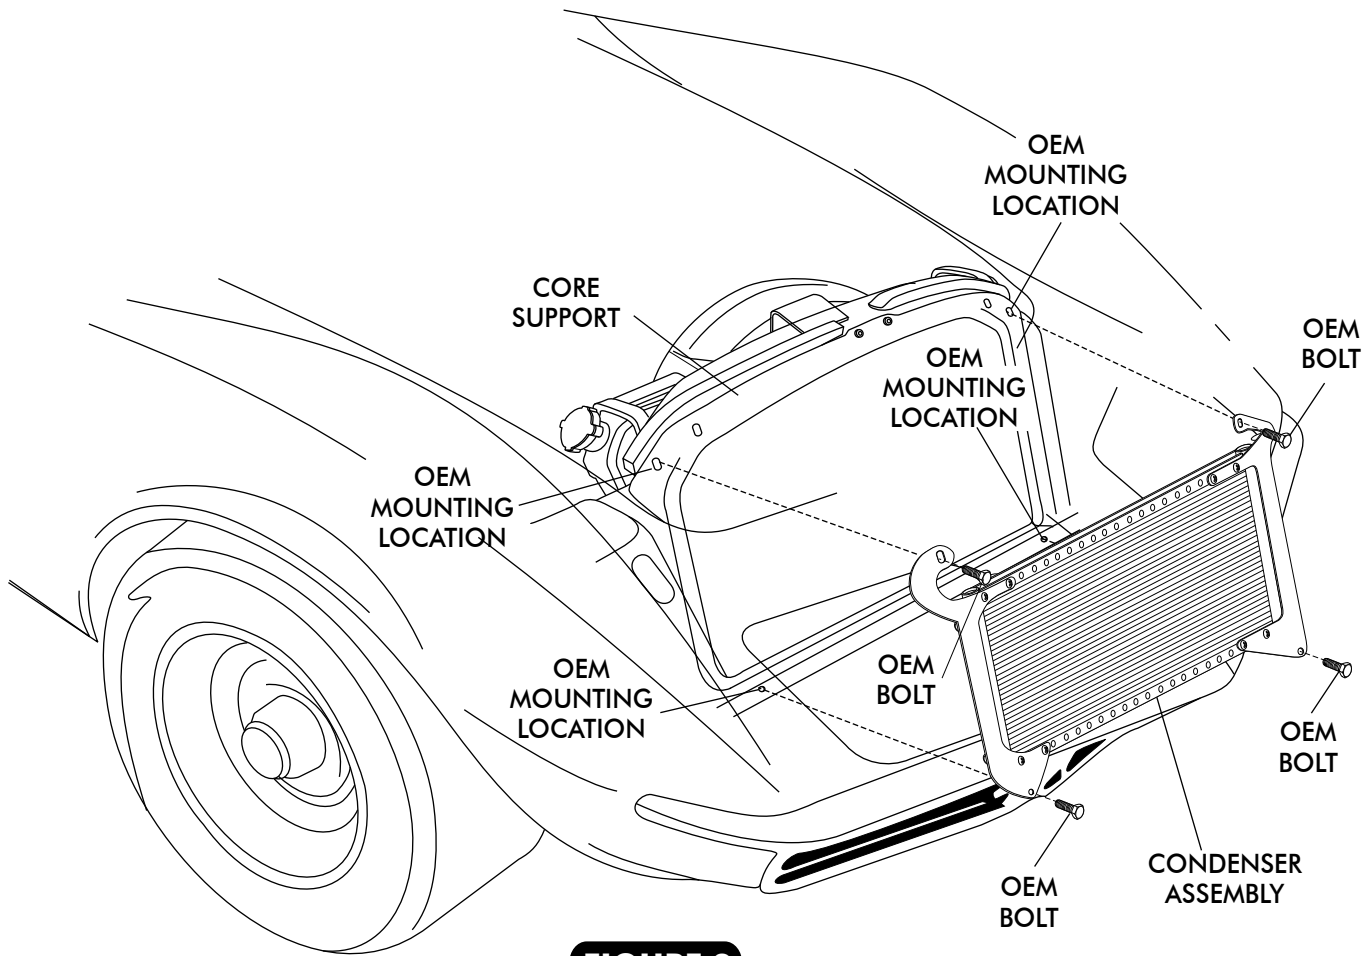

FIGURE 2
- INSTALL CONDENSER ASSEMBLY BY PLACING THE CONDENSER ON THE FRONT SIDE OF THE CORE SUPPORT AND ALIGN WITH OEM MOUNTING HOLES AS SHOWN IN FIGURE 2.